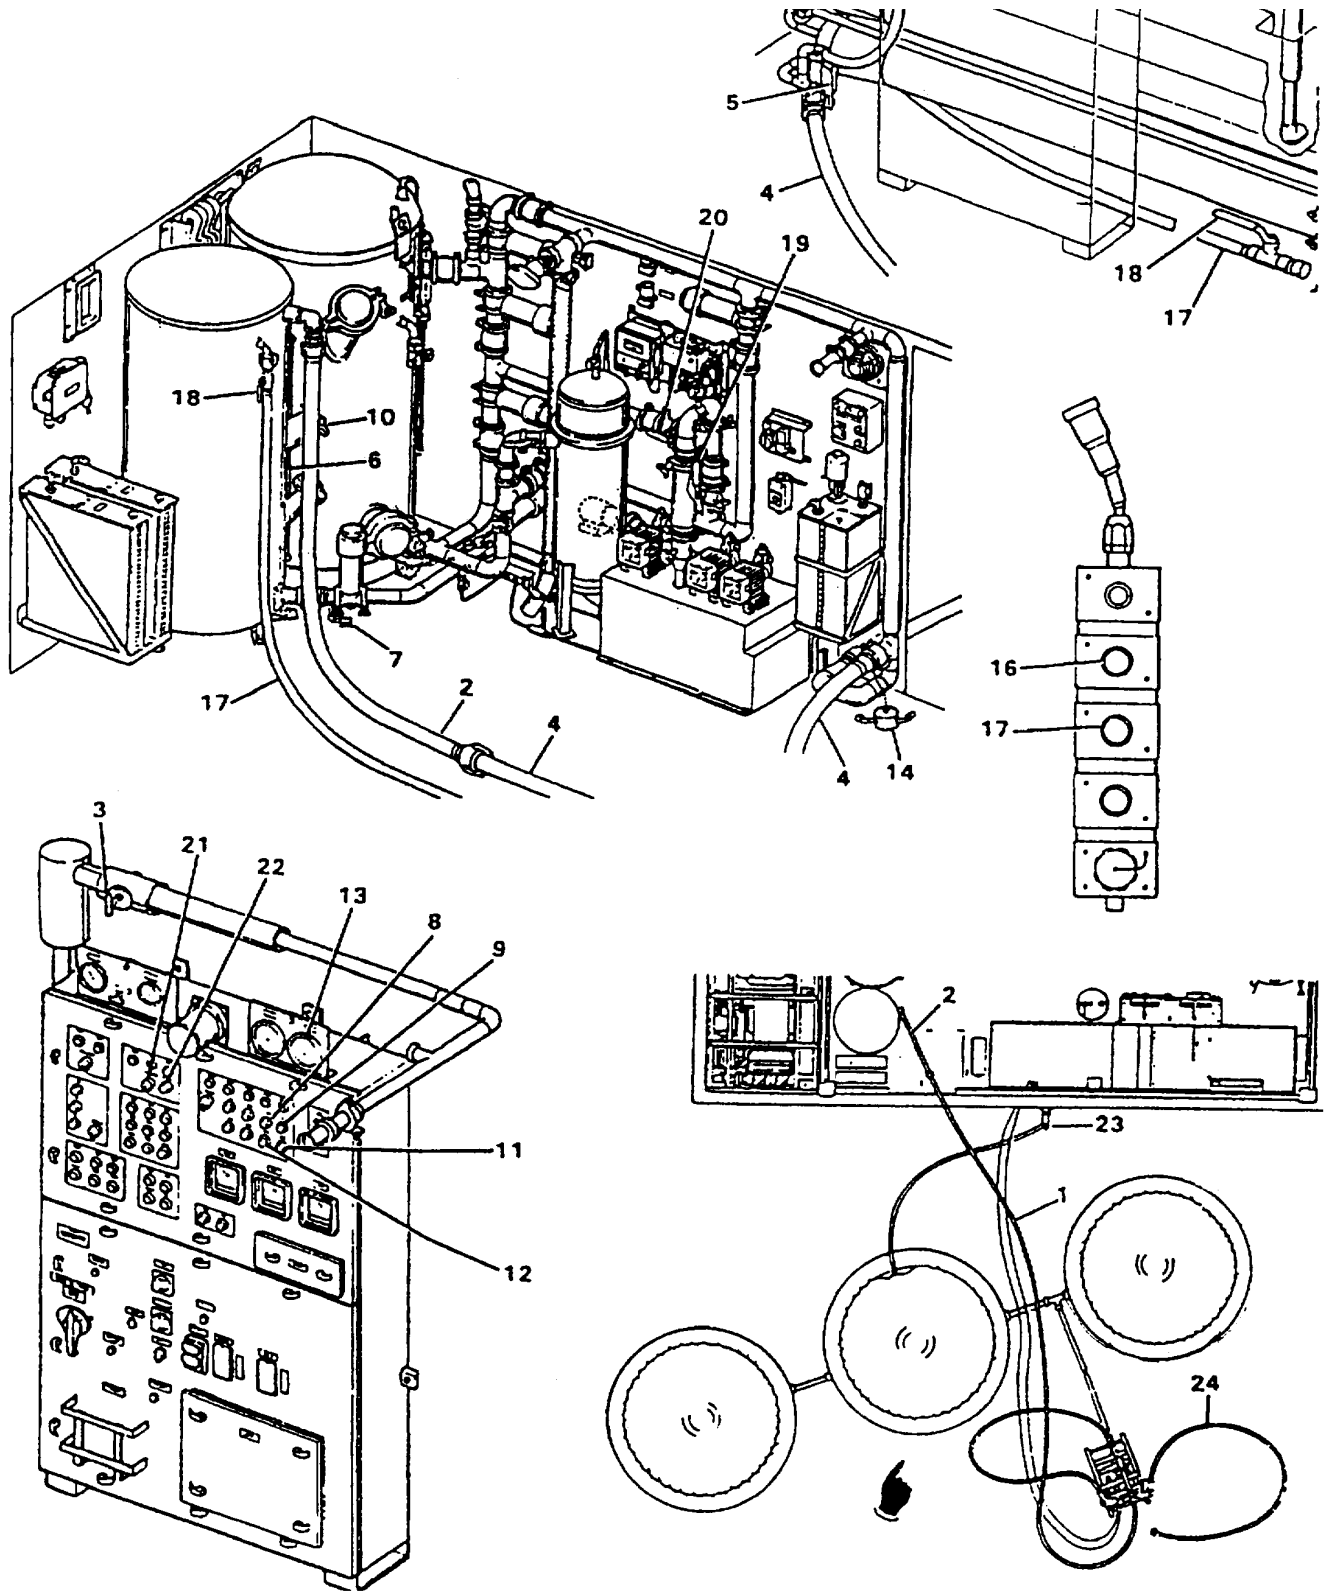

Figure 2-62. NTP-A Cleaning
- (f) Fully open system pressure control valve (5).
- (g) Set OPERATION MODE switch (3) to FILTER NORMAL
- (h) Push INITIATE (4).
- (i) Fully open product shut-off valve (13).
- (j) Replace cartridge filter elements (para. 2-24 b (4)).
- (k) Disconnect auxiliary fill hose (14) at both ends and coil out of way. Reconnect dispensing hose (33).
- (7) If ROWPU is to be secured, continue with instructions provided in para. 2-22b (8) for short term or 2-23f (2) for long term.
e. NTP-A Cleaning (Figure 2-62).
- (1) Set-up to clean.
- (b) Remove auxiliary hose (1) from overflow hose (2).
- (c) Fully close system pressure control valve (3).
- (d) Connect the clean return hose (4) to the clean/flush tank overflow hose (2).
- (e) Open the clean return valve (5).
- (2) Establish circulation (Figure 2-62).
- (a) Press BOOSTER PUMP START (8). Hold pushbutton in until feed pressure low light goes off.
- (b) Press HIGH PRESSURE PUMP START (9).
- (c) Remove chemical pot-t cover (10) from clean/flush tank.
- (e) Install chemical port cover (10).
- (f) Circulate for 10 minutes. Press HIGH PRESSURE PUMP STOP (11). After 1 minute press BOOSTER PUMP STOP (12). Soak for 20 minutes. Repeat the circulation and soak one additional cycle.
- (3) Flush cleaning solution (Figure 2-62).
- (a) Close the clean return valve (5).
- (b) Remove the clean return hose (4) from the clean/flush tank overflow hose (2).
- (c) Remove waste out cap (15) (inside) from waste out connection.
- (d) Connect clean return hose (4) to waste out connection.
- (f) Press BOOSTER PUMP START (8). Hold pushbutton in until feed pressure low light goes off.